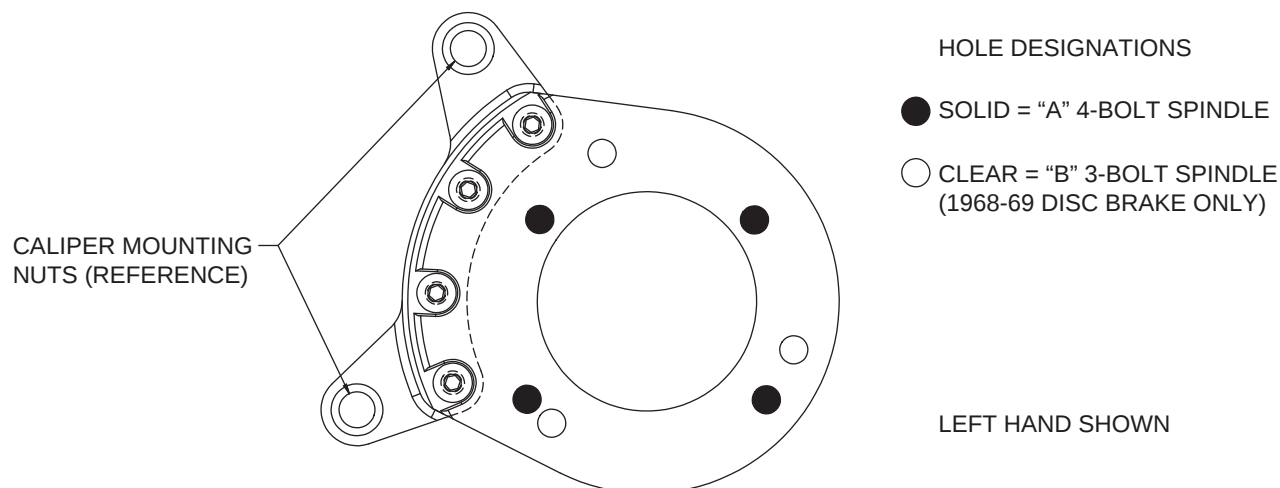
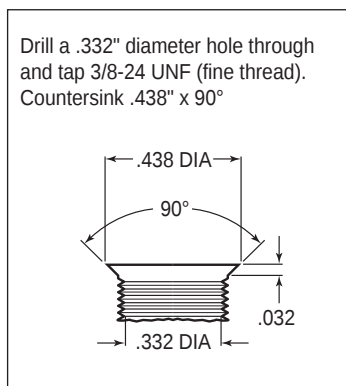
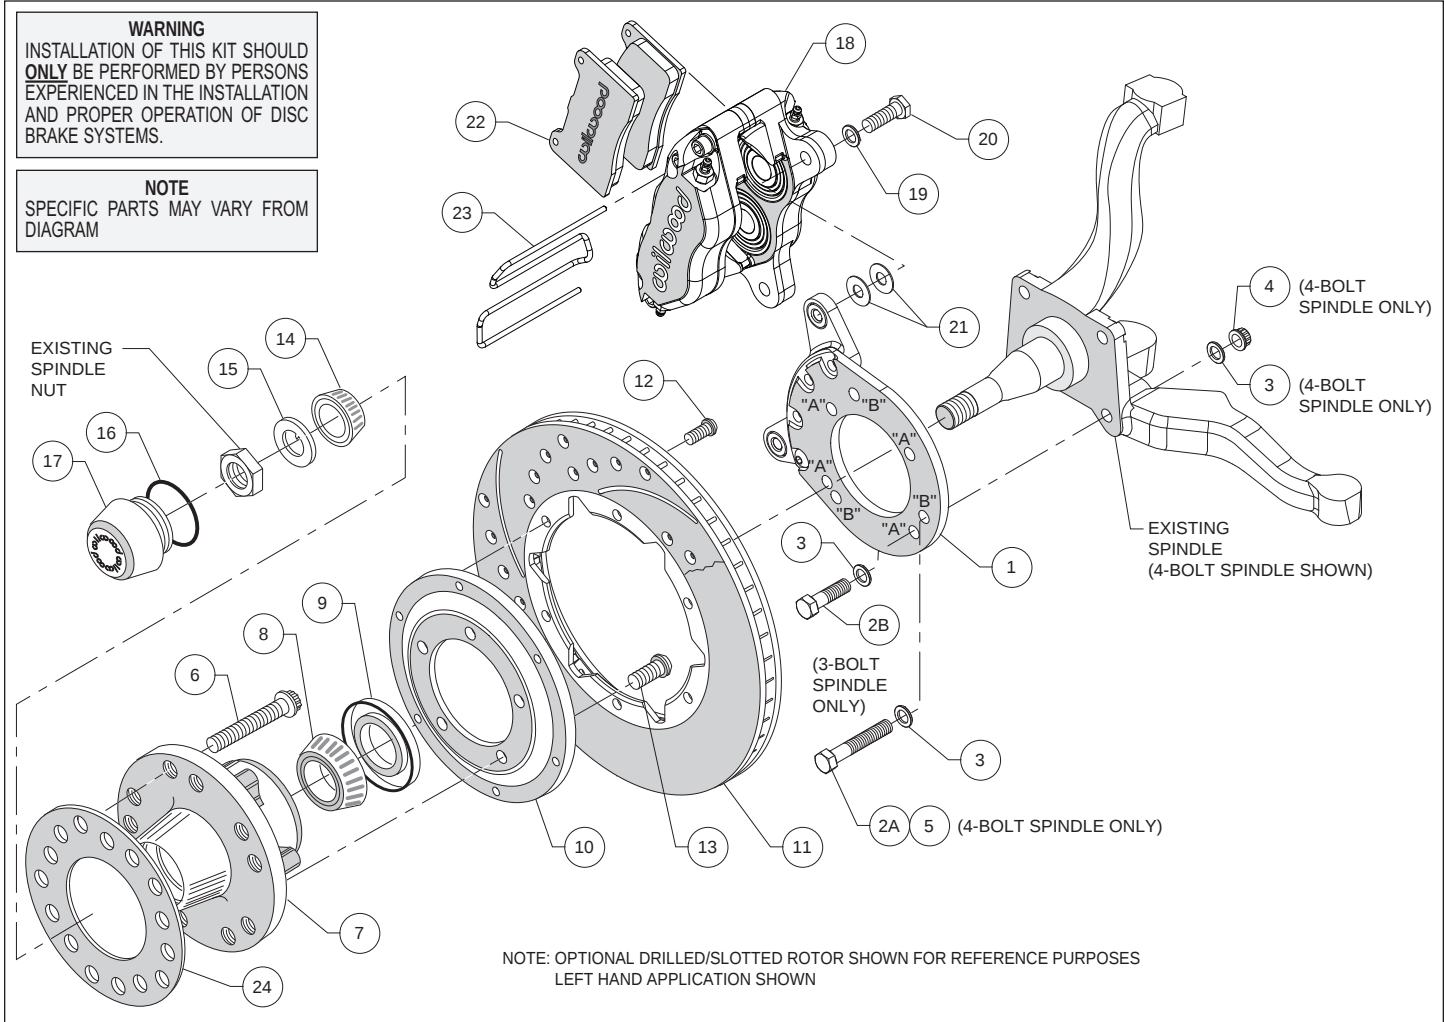
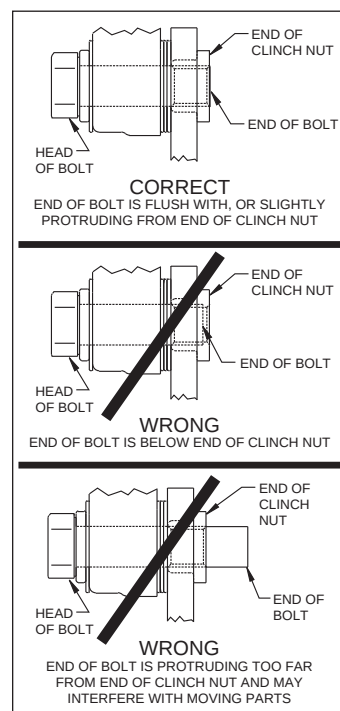

Figure 1. Wilwood Caliper Mounting Bracket
Figure 2. Drill and Tap Detail
Figure 4. Typical Installation Configuration
Figure 5. Clinch Nut Engagement Diagram
This kit has been designed for use with both three and four bolt spindle configurations. The only difference is in how the Wilwood caliper mounting bracket is installed. The same bracket is used for both configurations; only the 1968-69 disc brake spindle utilizes three mounting holes while all other spindles use the four mounting holes (see Figure 1). For your convenience we have supplied bolt kits for both applications (see parts list and Figure 4 as necessary). Use the bolt kit that is applicable to your vehicle and disregard the other one.
NOTE: This modification should be performed by a qualified machinist and completed before assembly of the Wilwood disc brake kit begins. Using the caliper mounting bracket as a template (refer to Figure 1 as necessary), locate and verify the three original holes on the spindle that need to be modified. Drill a .332" diameter hole through all three holes, then tap 3/8-24 UNF (fine thread). Countersink the holes to .438" diameter x 90°, as shown in Figure 2.
Assembly Instructions (numbers in parenthesis refer to the parts list, and Figure 4 on the preceding pages): **CAUTION:** All mounting bolts must fully engage clinch nuts. Be sure to check that all bolts are either flush or protruding through flanged side of clinch nut after shimming, Figure 5.
•**NOTE:** This kit uses the same mounting bracket (1) for both the three and four bolt brake spindles. The 4-bolt version, Photo 1, uses four mounting bolts (designated "A"), while the 3-bolt version, Photo 2, uses three (designated "B"). Refer to Figures 1 and 4 for the basic installation position of the bracket and the "A" and "B" reference designations (not physically marked on the brackets).
For 4-Bolt Spindle: Align bracket, using the four "A" holes, to the face of the spindle and attach using bolts (2A and 5), washers (3), and lock nuts (4), as shown in Figure 4. Ensure that the flanged heads of the clinch nuts in the bracket are facing outboard, Photo 1. Torque lock nuts to 30 ft-lb.
For 3-Bolt Spindle (1968-69 Disc Brake): Align bracket, using the three “B” holes, to the face of the spindle and attach using bolts (2B) and washers (3), as shown in Figure 4. Finger tighten. Ensure that the flanged heads of the clinch nuts in the bracket are facing outboard, Photo 2. Remove bolts one at a time, apply red *Loctite*® 271 to threads, and torque to 40 ft-lb.
- Orient the rotor (11) and the rotor adapter (10) as shown in Figure 4 and Photo 5. Attach the rotor to the adapter using bolts (12). Using an alternating sequence, apply red *Loctite*® 271 to the threads, and torque to 25 ft-lb.
- Mount the adapter/rotor assembly (10/11) to the hub (7) using bolts (13), as shown in Figure 4 and Photo 6. Using an alternating sequence, apply red *Loctite*® 271 to the threads, and torque to 45 ft-lb.
- NOTE:** Please reference the caution statement at the beginning of the assembly instructions. Mount the caliper (18) onto the caliper mounting bracket (1) using bolts (20) and washers (19), as shown in Figure 4. Initially place two .035" thick shims (21) on each bolt between the caliper and the bracket, Photo 9. Temporarily tighten the mounting bolts and view the rotor (11) through the top opening of the caliper. The rotor should be centered in the caliper, Photo 10. If not, adjust by adding or subtracting shims between the bracket and the caliper. Always use the same amount of shims on each of the two mounting bolts. **NOTE:** The end of each bolt must be flush with or slightly protruding from the head of the clinch nut, as shown in Figure 5. If necessary place spare shims between washer (19) and caliper